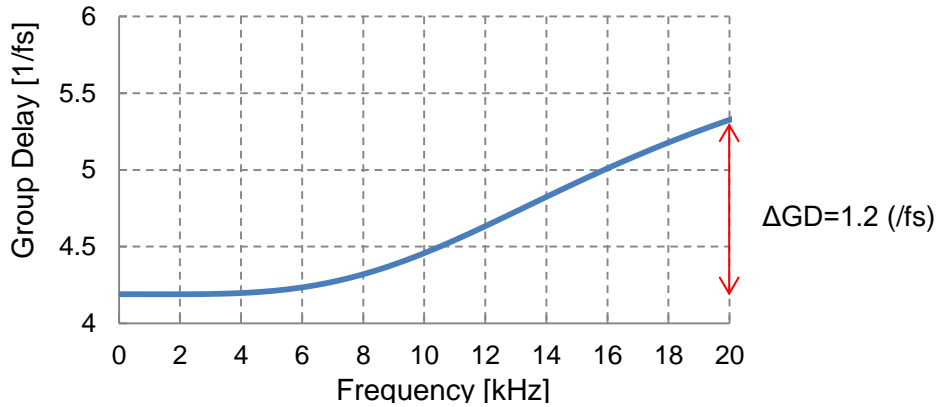

Figure 3. Group Delay Distortion (SD bit = "1", SLOW bit = "1", fs = 48kHz)
The AK5736 has 4 types of digital filters. Short Delay Slow Roll-Off Filter (SD bit = "1", SLOW bit = "1") is suitable for ANC that requires high speed operation. There are two reasons for that, the one is Group Delay (GD) is the minimum among the four filters, and the other is that Group Delay Distortion (Δ GD) representing the difference in the GD at input signal 0kHz to 20kHz is very small as 1.2 fs (Figure 3) therefore there is almost no Δ GD in the low frequency area used for ANC.